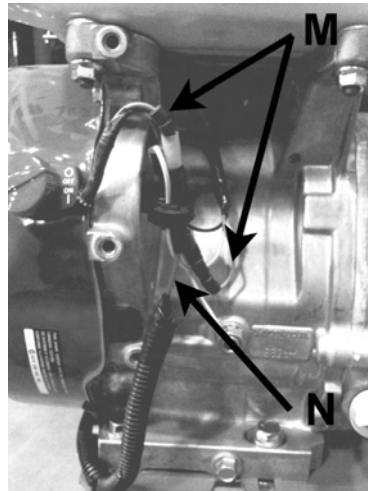
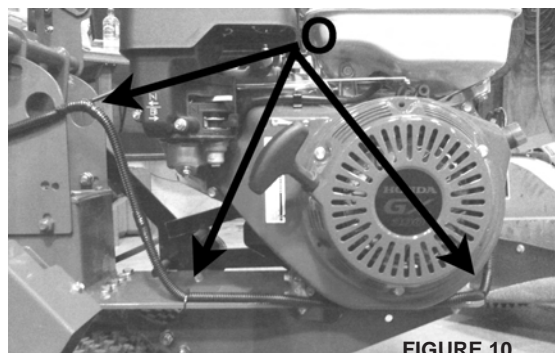

FIGURE 7
FIGURE 10
10. Disconnect red wires **M** and connect red wire from operator presence control **N** to the red wires you just disconnected. (Figure 7) Use zip ties to tie down wire harness as shown (Figure 10).
12. Attach the cut-off blade **2** and blade mount **1** with 3/8-16x1-1/4" screws and nylon inserts. (6 bolts and nuts for 18" (457mm) and 4 for 16" (406mm). (Figure 7)